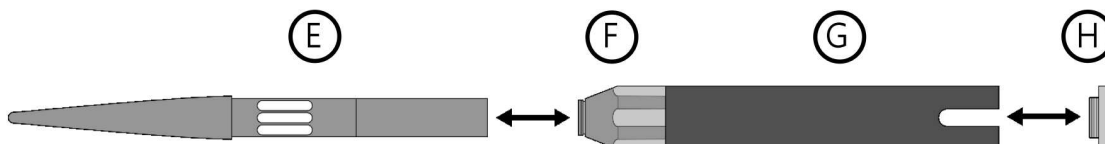

Figure 3.6: Disassembling of the Weather protector SWS1
Then unscrew the **Protective Sleeve (E)** from the **Shaft (G)** and loosen the **Shank Head (F)** slightly. Be sure to use strength only on the stainless steel components and not damage the fee. Then turn off the **socket (H)** (figure 3.6).